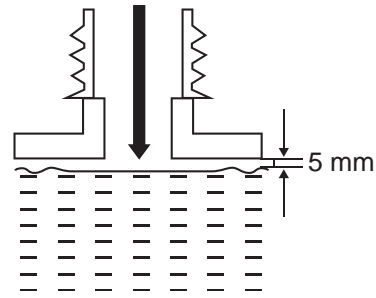

Fig. 15
- Do not overfill. Add fuel until the fuel level remains a minimum 5 mm of space between top of the fuel and the inside edge of the tank to allow for expansion (Fig. 15).